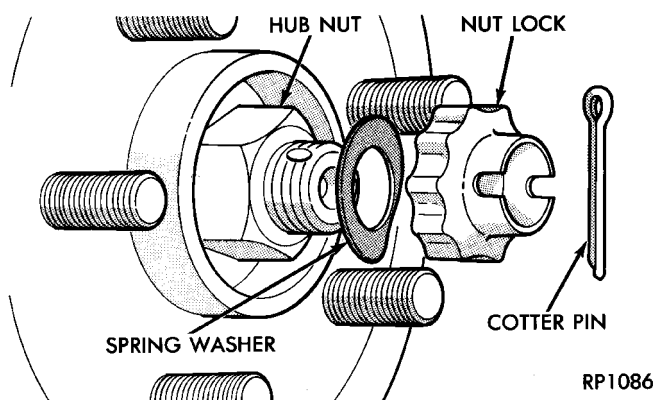

Fig. 14 Cotter Pin, Nut Lock, And Spring Washer
(1) Remove cotter pin, nut lock, and spring washer (Fig. 14).